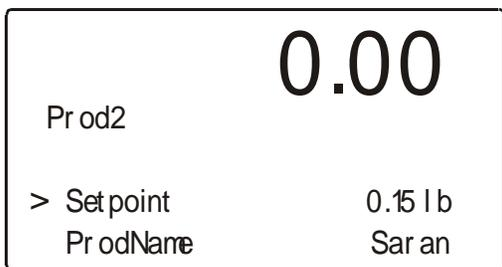

FIG. 3-11 PROD2 MENU/SETTING PRODUCT 2 NAME & SETPOINT
- Step 1. Press the Enter button. The Prod1 Menu appears. (See Fig. 3-11)